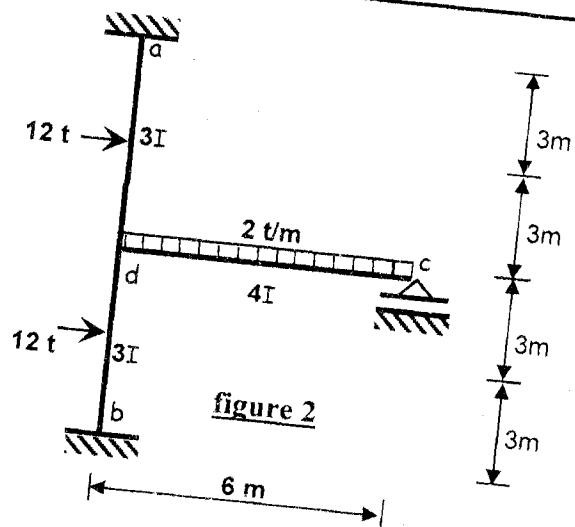

figure 2
v) Figure 2 shows plan of a beam with cantilever ABC. The beam carries cantilever beams AE and CD. An ultimate load $P_u = 60\text{kN}$ is applied at points D, E and F. The support **B is only** restrained against rotation about z axis. Neglect own weight of all beams. **It is required** to draw B.M.D, S.F.D and T.M.D of the beam ABC. Find reactions at columns A and B. (6marks)
Using the slope deflection method, draw the B.M.D for the given frame of variable I shown in figure 2.